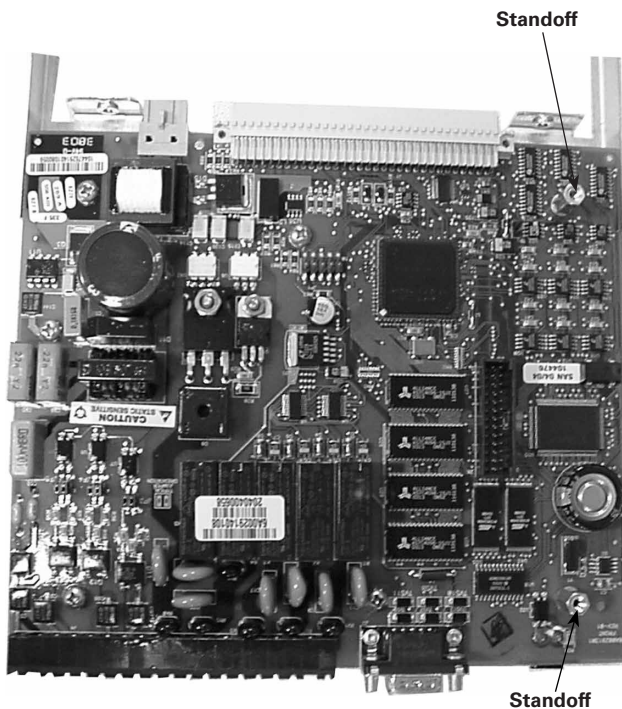

Figure 6. Location of standoffs on CPU board.
3. Carefully pull CPU board outward so as not to damage the capacitor or any of the electrical components on the Bezel tabs (Figure 6).
3. Carefully pull the CPU board outward so as not to damage the capacitor or any of the electrical components on the Bezel tabs (Figure 6).
Do not damage the capacitor or any other electrical components on the Bezel tabs (Figure 6).
3. Remove the two screws on the bottom panel located under the TB2 terminal block strip (Figure 6).